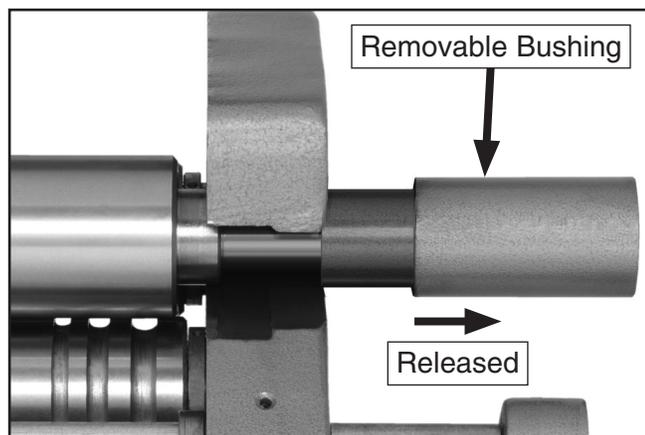

Figure 30. Removable bushing release.
2. Slide the removable bushing outward. This will release the upper roller from the stand (**Figure 30**). Do not yet attempt to remove the upper roller.